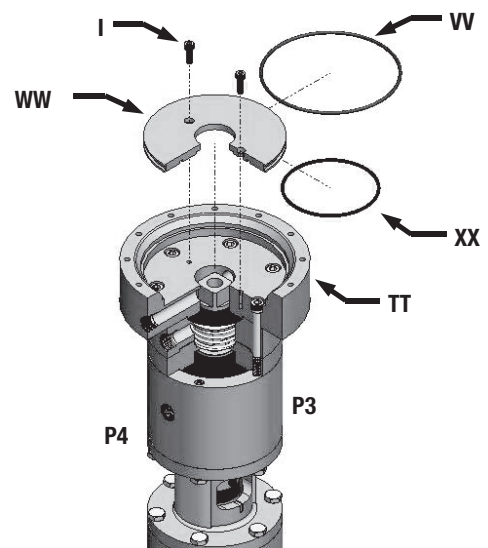

Figure 28
**Step 48:** Slide a -154 O-Ring (VV) around the rim of the Seal Plate (WW), as shown in FIGURE 28. Place a -145 O-Ring (XX) into the bottom groove of the Seal Plate (WW).
**Step 49:** Bolt the Seal Plate (WW) to the Lower Feedback Chamber (TT) using 2, 8-32 x 1/2" SHCS (I).